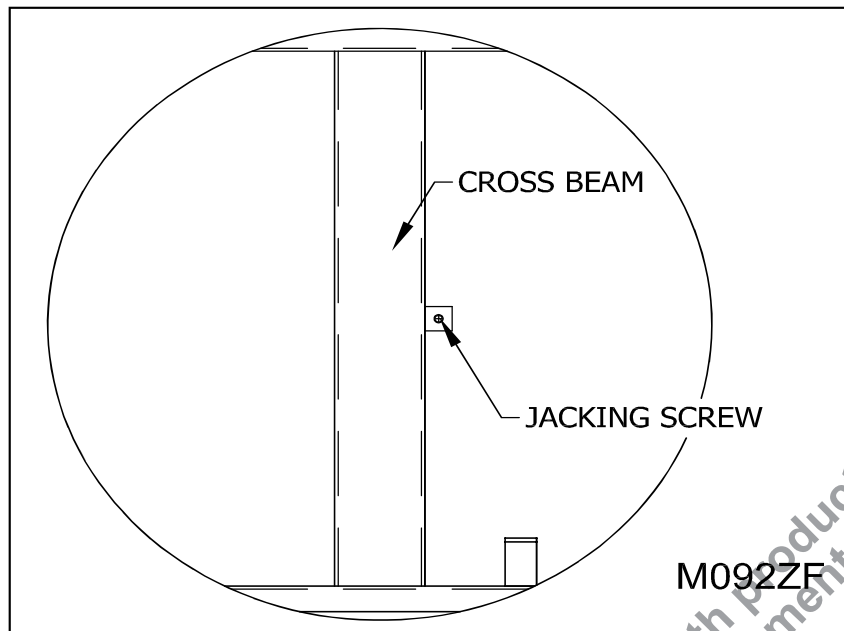

Figure 48: Use Jacking Screw to Eliminate Dead Space
10. ___ Also screw down the jacking screws to remove any potential dead space between the concrete and underside of the pan. (See “Figure 48: Use Jacking Screw to Eliminate Dead Space” on page 41).